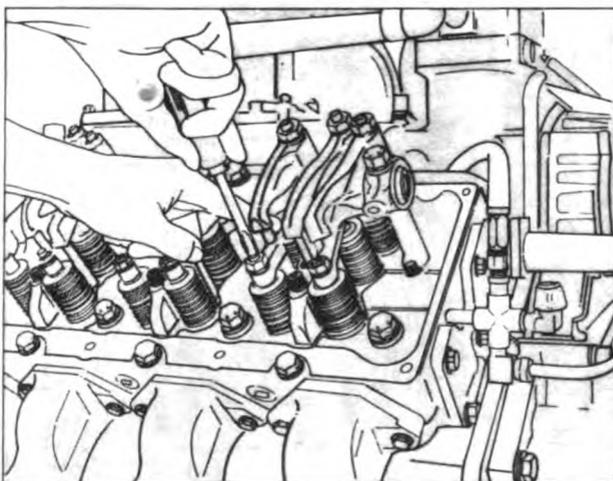

Fig. 2-33. (OM1039L). Adjusting crossheads
3. Turn down the crosshead adjusting screw until it touches the valve stem. Fig. 2-33.